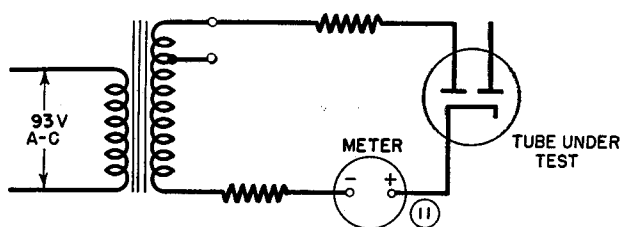

Figure 5. Tube Tester I-177, simplified rectifier test circuit.
17. RECTIFIER TEST (fig. 5). This circuit is used for making emission tests of standard full-wave rectifiers, diodes and OZ4 tubes. An a-c voltage of definite value is applied between a cathode and plate of the tube under test, through resistors and the meter. The total resistance and the voltage are set automatically to the correct values for a GOOD-REPLACE meter reading when selector switches A and B are set at the positions specified on the test data card for the tube being tested. As an example, one plate of a four-prong full-wave rectifier is connected into the circuit when selector A is set at position 1. The second plate is connected into the circuit when selector A is set at 3. The special pushbutton for OZ4 rectifier tubes provides a higher plate-cathode voltage than is used for heater or filament-type rectifiers, with a resistor in the circuit to limit the current if the tube elements are shorted. The special pushbutton for diodes provides a lower voltage than for regular tubes. It also provides a protective series resistance.